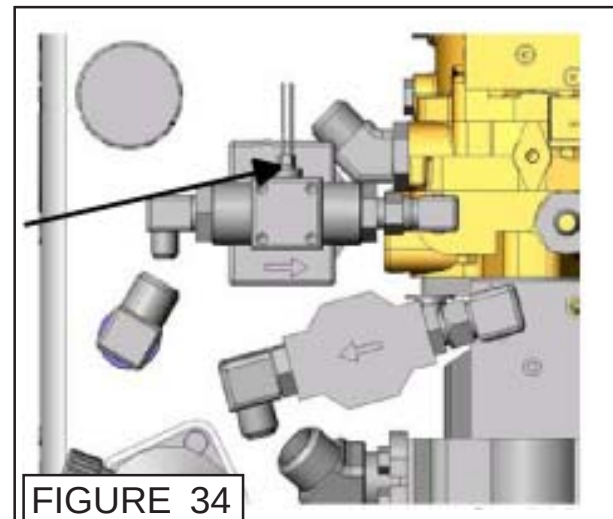

FIGURE 34
3. The Charge Pressure Filter Switch The charge filter pressure switch has three wire coming out of it, a white , black and Blue wire. The Blue wire will not be used and will be cut off. The charge pressure filter switch is located at the filter in the charge loop on the hydrostatic pump (See Figure 34). The sensor monitors the back pressure created by the filter element when in use. When the back pressure reaches a setting of 50 psi the switch will trigger and prompt the operator for a filter element change of filter element.